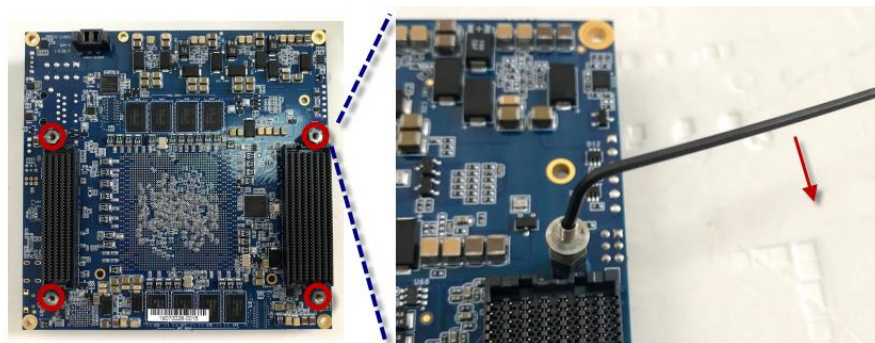

Figure 3-3 Assemble JSOM-T to JSOM-B
2. Use a Hex Key to screw four JSOM-T into four JSOM -B as shown in **Figure 3-3**.